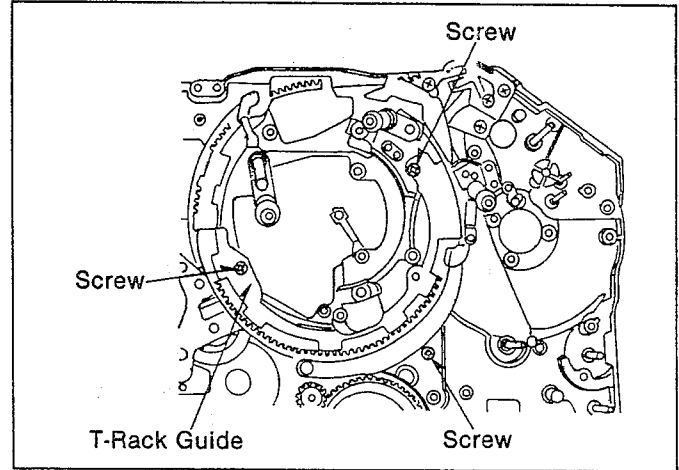

Fig. M7
- (1). Install the T-Rack Guide as shown in Fig.M7.